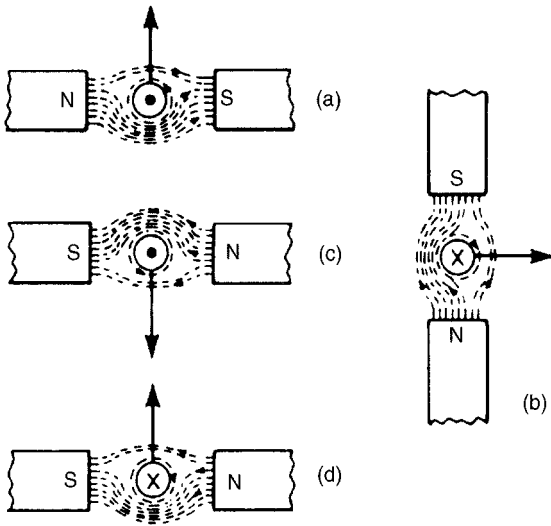

Figure 8.16
- (a) The direction of the main magnetic field is from north to south, i.e. left to right. The current is flowing towards the viewer, and using the screw rule, the direction of the field is anticlockwise. Hence either by Fleming's left-hand rule, or by sketching the interacting magnetic field as shown in Fig. 8.16(a), the direction of the force on the conductor is seen to be upward.
- (b) Using a similar method to part (a) it is seen that the force on the conductor is to the right – see Fig. 8.16(b).
- (c) Using Fleming’s left-hand rule, or by sketching as in Fig. 8.16(c), it is seen that the current is toward the viewer, i.e. out of the paper.
- (d) Similar to part (c), the polarity of the magnetic system is as shown in Fig. 8.16(d).